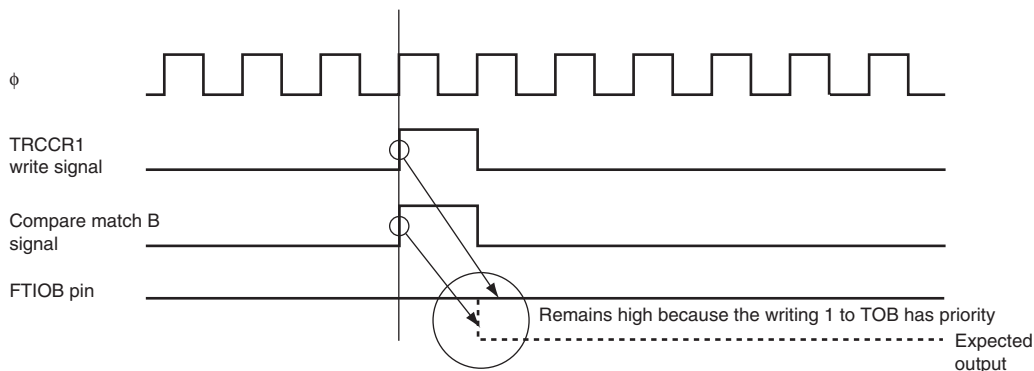

Figure 15.39 When Compare Match and Bit Manipulation Instruction to TRCCR1 Occur at the Same Timing
5. The TOA to TOD bits in TRCCR1 decide the output value of the FTIO pin until the first compare match occurs. Once a compare match occurs and this compare match changes the values of FTIOA to FTIOD output, the values of the FTIOA to FTIOD pin output and the values read from the TOA to TOD bits may differ. Moreover, when the writing to TRCCR1 and the generation of the compare match A to D occur at the same timing, the writing to TRCCR1 has the priority. Thus, output change due to the compare match is not reflected to the FTIOA to FTIOD pins. Therefore, when bit manipulation instruction is used to write to TRCCR1, the values of the FTIOA to FTIOD pin output may result in an unexpected result. When TRCCR1 is to be written to while compare match is operating, stop the counter once before accessing to TRCCR1, read the port H state to reflect the values of FTIOA to FTIOD output, to TOA to TOD, and then restart the counter. Figure 15.39 shows an example when the compare match and the bit manipulation instruction to TRCCR1 occur at the same timing.